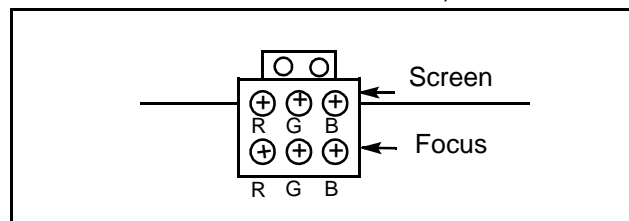

Figure 24. Focus Pack
4. Adjust the red, blue and green focus VR on the focus block for best focus of overall picture of each CRT. (Figure 24)
2. Cover the green and blue CRTs, projecting red only. The electrical focus controls are located on the front (Figure 24). Adjust the red focus VR for best focus as indicated in Table 4).